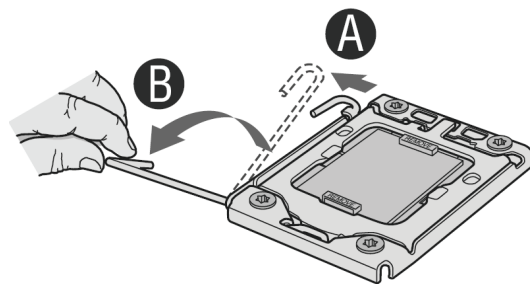

Figure 24. Opening the Processor Socket Lever
8. Push down the lever on the processor socket. While pushing downward, push it away from the socket to release it from the hook. Open the socket lever completely. See figure 24.